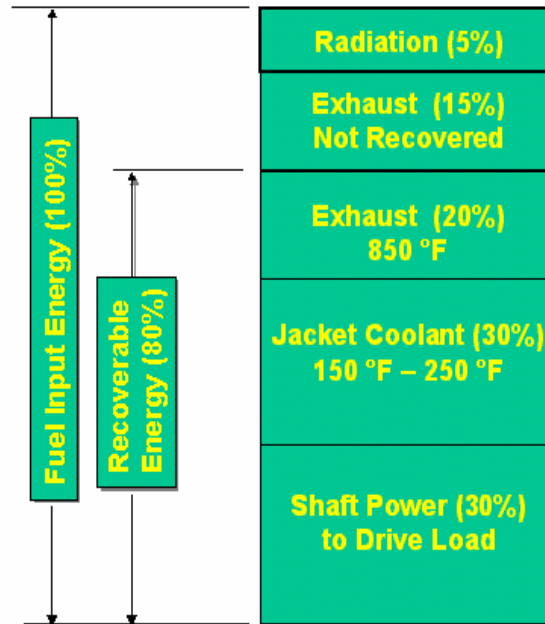

Figure 2-1 Energy Distributions for a Typical Reciprocating Engine
- The **fuel utilization efficiency** of IC engines for producing electricity ranges from approximately **25% to 40%** on the basis of lower heating value (LHV). Usable **thermal energy** from these prime movers is normally **recovered** from two streams: 1) **engine exhaust gases**, and 2) **engine-jacket coolant**. **Distribution of energy** for a typical engine is shown in Figure 2-1.